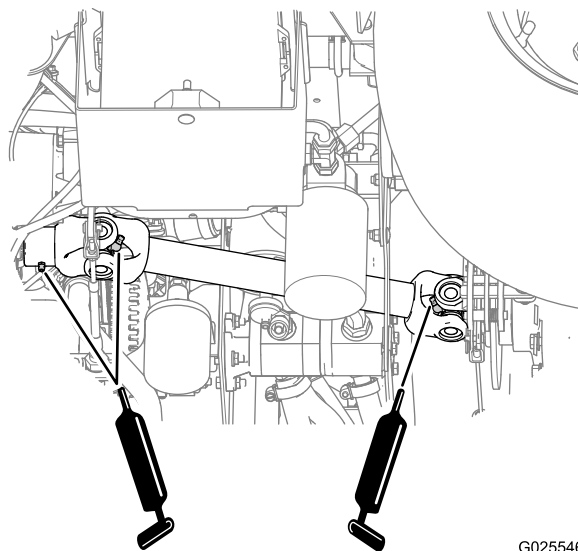

**Figure 37**
- **Spring tower (2)**; refer to Figure 37